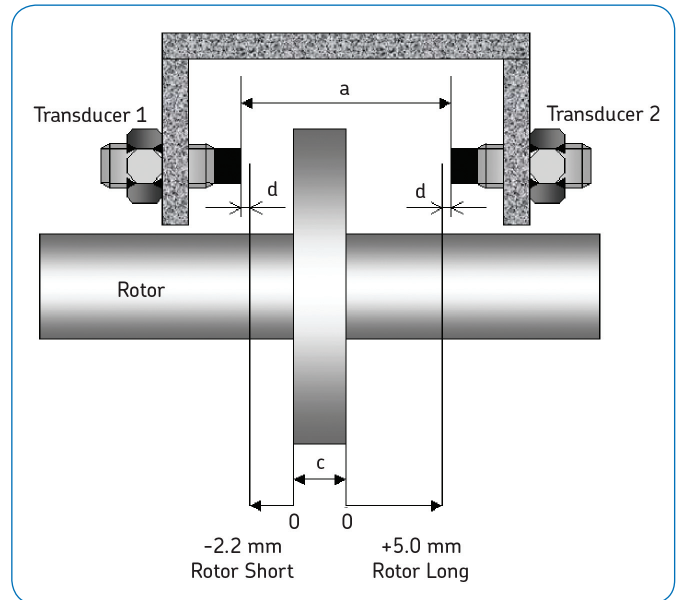

Figure 5.
- Usable range = 145 mils = 3,68 mm, from 0,38 ("d" in fig. 5) to 4,06 mm
- Collar size = ("c" in fig. 5) 100 mm